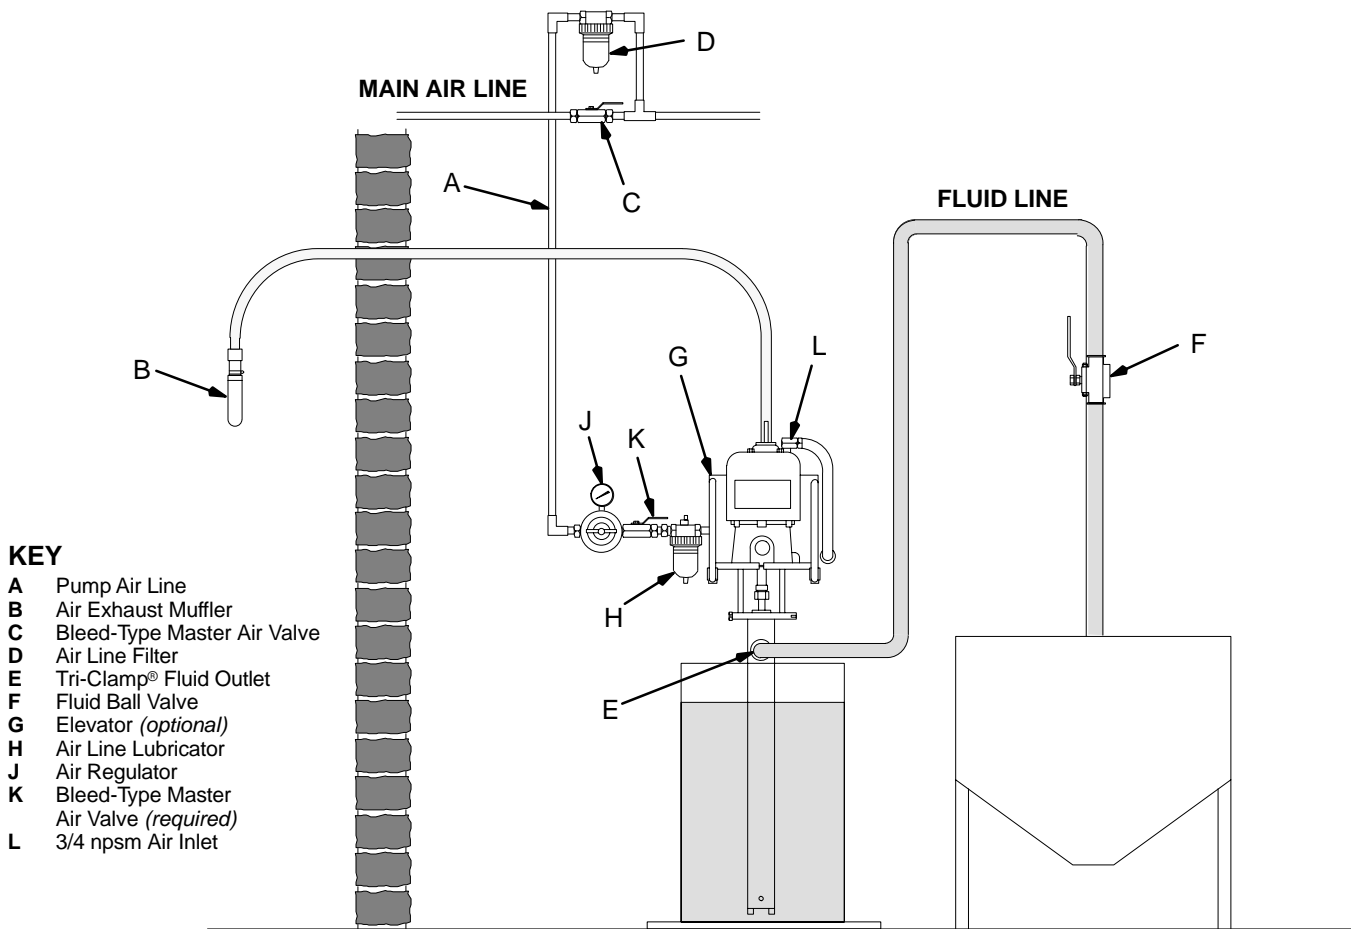

Fig. 1
Fig. 1 is only a guide for selecting and installing system components. Contact your Graco distributor for assistance in planning a system to suit your needs.
NOTE: The pump is shown mounted on optional Pump Elevator 947992 in Fig 1 and 3. See **ACCESSORIES** on page 20 to order.
Mount the accessories in the order shown in Fig 1 and 3.
Install an air regulator (J) to control air inlet pressure. See Fig 1 and 3.
Install an air line filter (D) to remove harmful dirt and contaminants from your compressed air supply. See Fig 1.
Install one bleed-type master air valve (K) downstream from the air regulator and use it to relieve trapped air. See Fig 1 and 3. Locate the other master air valve (C) upstream from all air line accessories and use it to isolate the accessories during cleaning and repair. See Fig 1.
Connect a 3/4 in. (19 mm) ID grounded air supply hose to the 3/4 npsm air inlet (L). See Fig 1 and 3.
Connect a grounded fluid hose to the pump's 2 in. (51 mm) Tri-clamp fluid outlet (E). See Fig 1 and 3.
Install a fluid ball valve (F) downstream from the pump fluid outlet. See Fig 1.